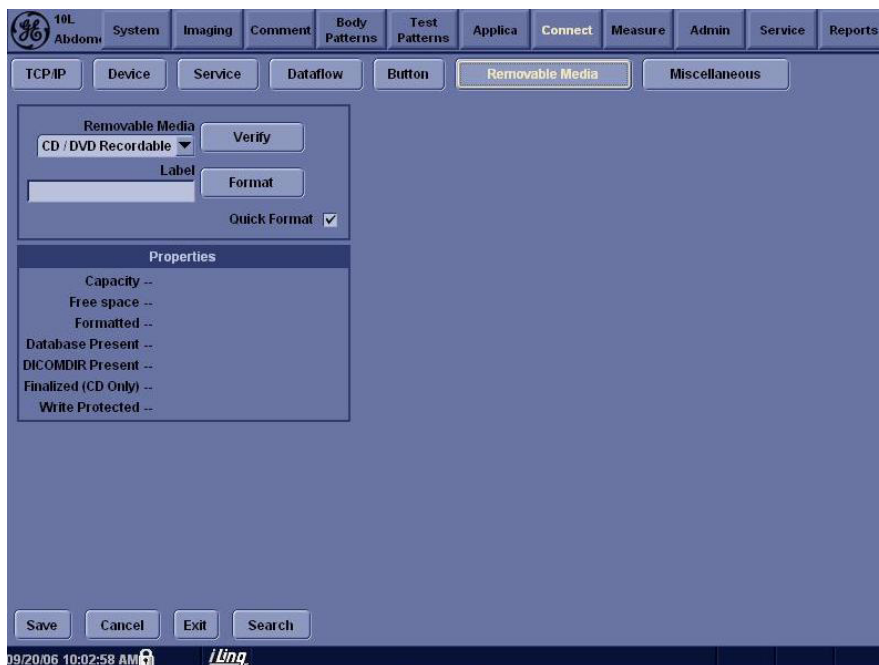

Figure 4-31 Format and Verify Media
- 4.) Enter the label for the media as shown in Figure 4-31. It is best to use all capital letters with no spaces or punctuation marks.
- 6.) If desired, verify that the format was successful by returning to *Utility>Connectivity>Tools* (in case of BT05 SW, *Removable Media*) and selecting VERIFY as shown in Figure 4-31.